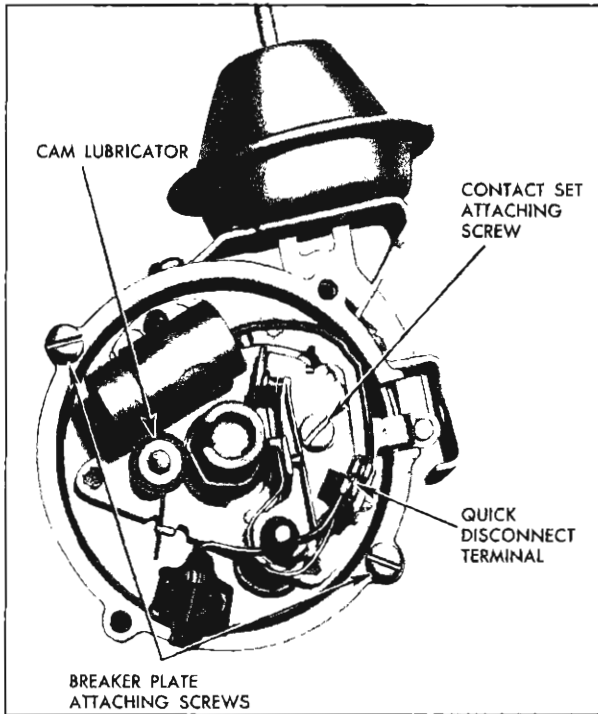

Fig. 45—Breaker Plate and Attaching Parts
Refer to Figures 45 through 47
3. Pull primary and condenser lead wires from contact point quick disconnect terminal (fig. 45).
Refer to Figure 45
3. Scratch a realignment mark on distributor in line with rotor segment (fig. 45).